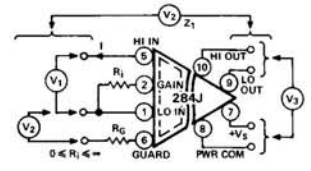

Figure 7. Model 284J Terminal Ratings
**Terminal Ratings:** CMV performance is given in both peak pulse and continuous ac or dc peak ratings. Pulse ratings are intended to support defibrillator and other transient voltages. Continuous peak ratings apply from dc up to the normal full power response frequencies. Figures 7 and 9 and Table 1 illustrate models 284J, 286J ratings between terminals.